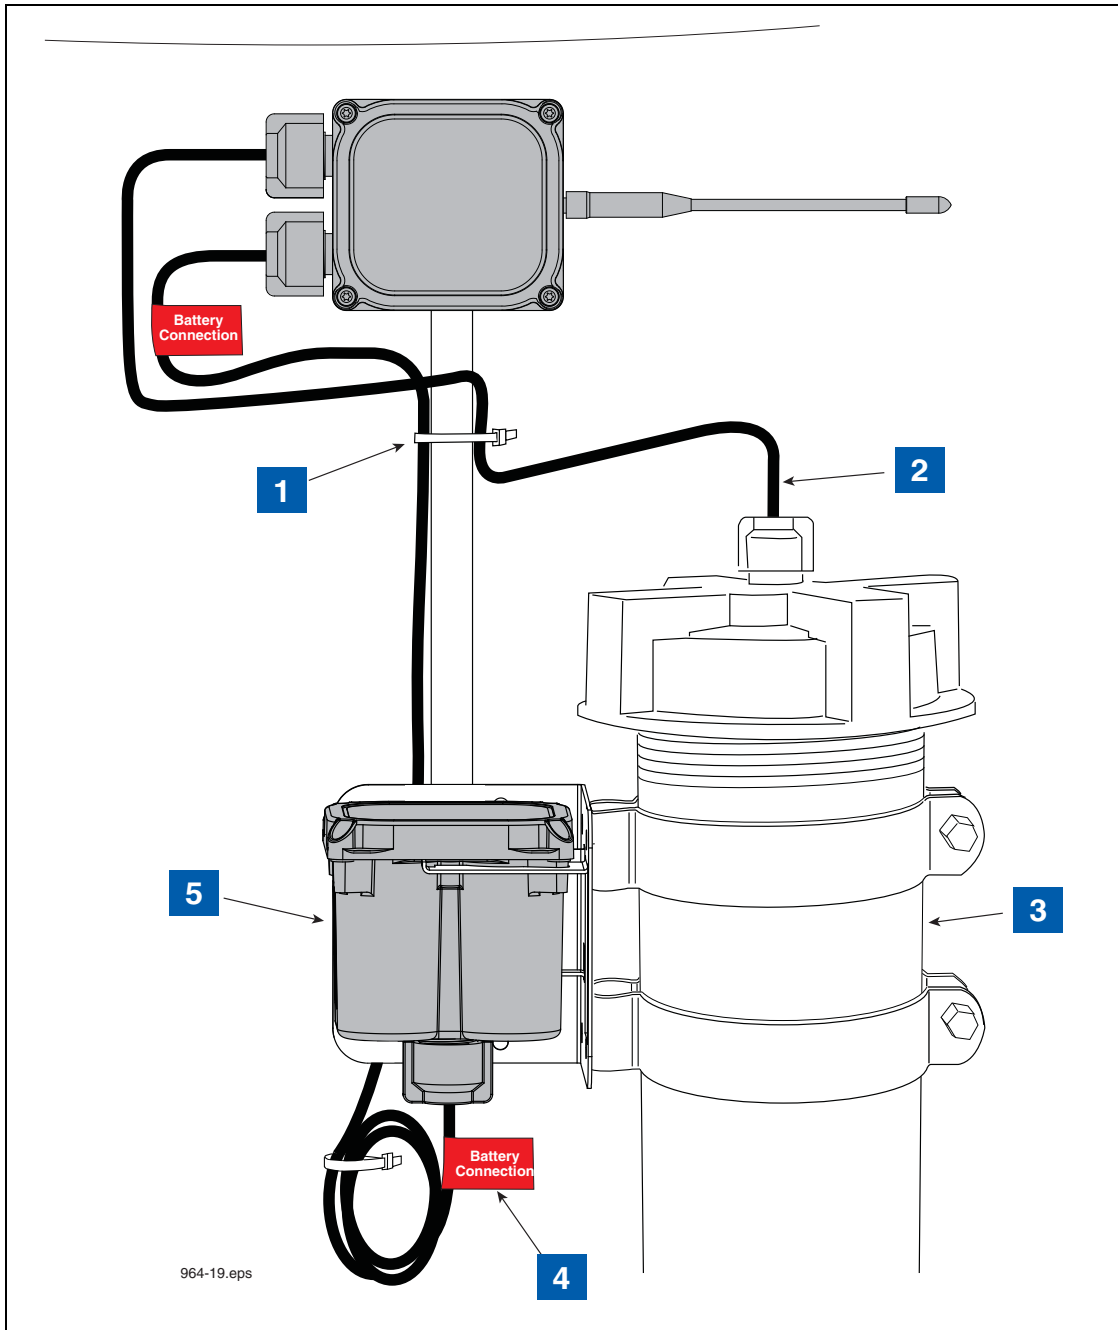

Figure 18. Mag Probe Installation Example
6. Insert the battery pack into the battery support bracket as shown in Figure 18.
**LEGEND FOR NUMBERED BOXES IN Figure 18**